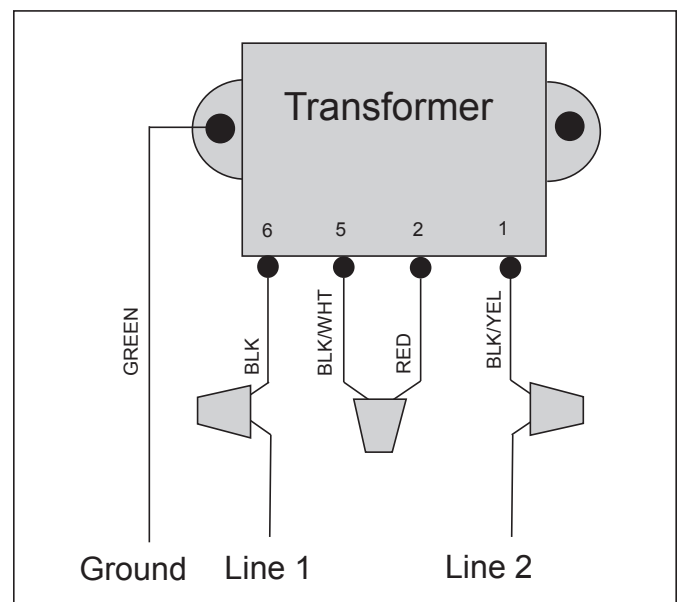

Figure 3. Factory Wiring for 220 Volt Operation
Model K-2100 is factory wired for 220VAC service. If the available electrical service is 110VAC, the power supply wiring must be changed to operate on 110VAC, as shown in Figures 3 and 4.
4. For 220 volt operation, connect the black wire to line 1 and connect the black wire with the yellow stripe to line 2. See Figure 3.
Refer to Figures 3 and 4 and do the following:
1. Cut the splice cap connecting the black/white and the red wires. See Figure 3.